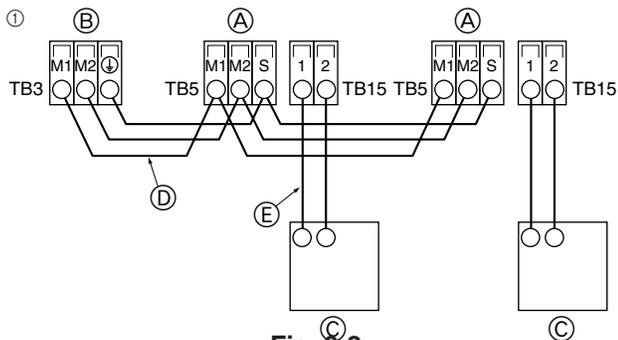

Fig. 6-2
① MA Remote controller (Fig. 6-2)